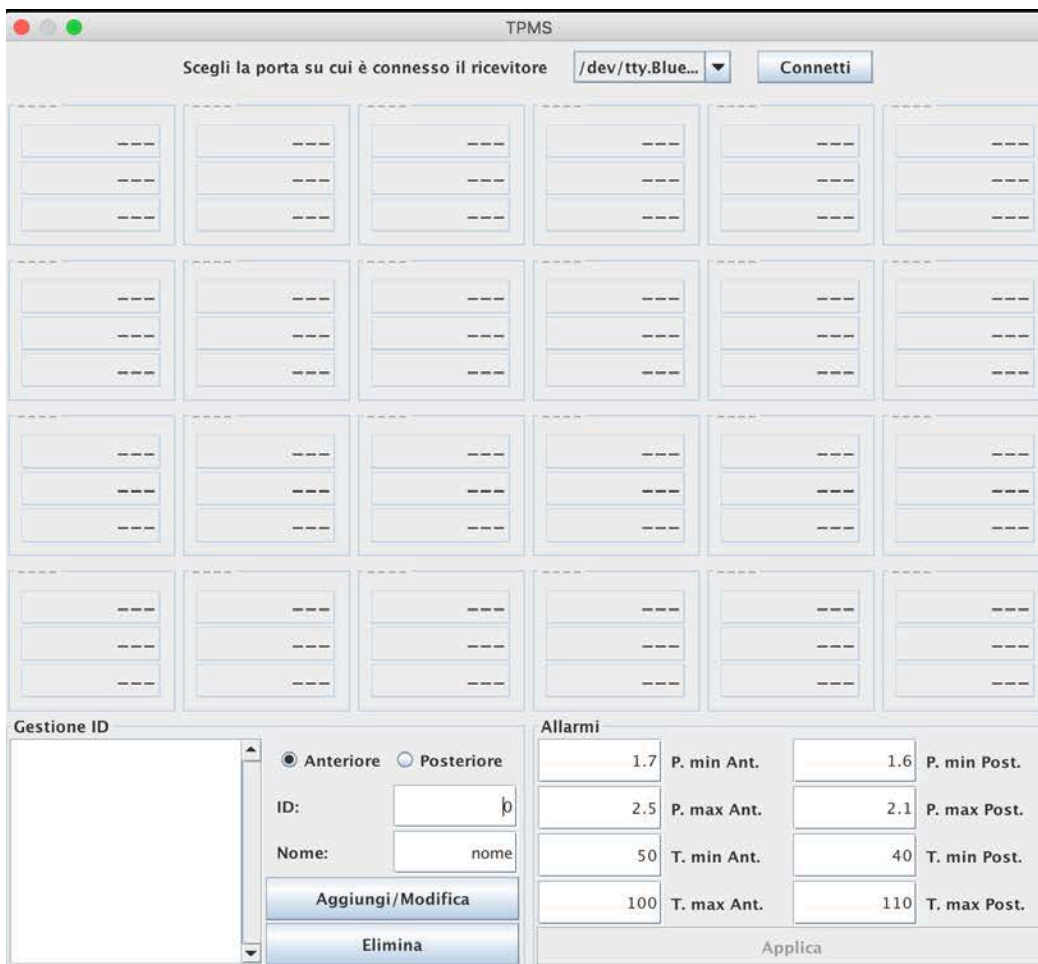

Fig. 11- read-out window of TPMS sensors
- **Add cursor:** this function activates a cursor on the graph. The cursor can be activated also with a double-click on the graph itself. In this mode, it is possible to activate a second cursor by moving the mouse while clicking the right button. If the *show selected info automatically* is active (see the *view* menu), the window of the selected info will automatically appear; it is shown in figure 11. The same window can be activated in the *tools* menu, as well as the second (reference) cursor can be activated from the icon bar.